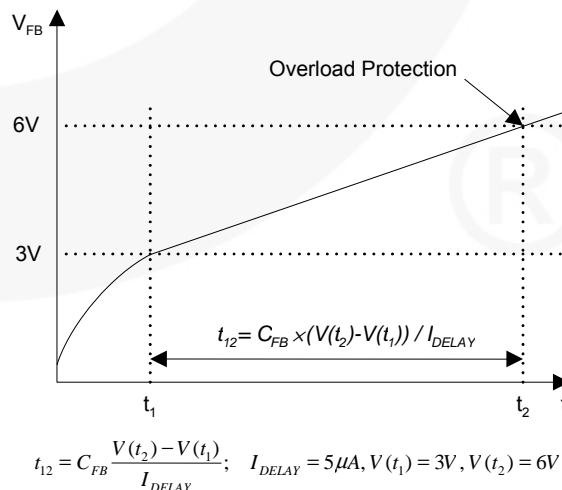

Figure 15. Overload Protection (OLP)
4.1 Overload Protection (OLP): Overload is defined as the load current exceeding a pre-set level due to an unexpected event. In this situation, the protection circuit should be activated to protect the SMPS. However, even when the SMPS is operating normally, the Overload Protection (OLP) circuit can be activated during the load transition. To avoid this undesired operation, the OLP circuit is designed to be activated after a specified time to determine whether it is a transient situation or a true overload situation. In conjunction with the I_{pk} current limit pin (if used), the Current Mode feedback path would limit the current in the SenseFET when the maximum PWM duty cycle is attained. If the output consumes more than this maximum power, the output voltage (V_O) decreases below its nominal voltage. This reduces the current through the optocoupler LED, which also reduces the optocoupler transistor current, thus increasing the feedback voltage (V_{FB}). If V_{FB} exceeds 3V, the feedback input diode is blocked and the 5 μ A current source (I_{DELAY}) starts to slowly charge C_{th} up to V_{CC} . In this condition, V_{FB} increases until it reaches 6V, when the switching operation is terminated (as shown in Figure 15). The shutdown delay s the time required to charge C_{th} from 3V to 6V with 5 μ A current source.